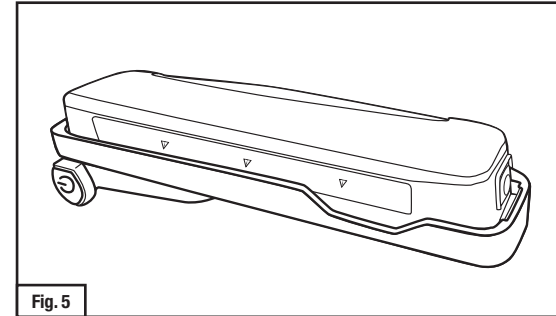

Fig. 5
3. Push down the TR-630 battery so that it is fully seated in the adapter and the blue release tab on battery clicks into place (Fig. 5).